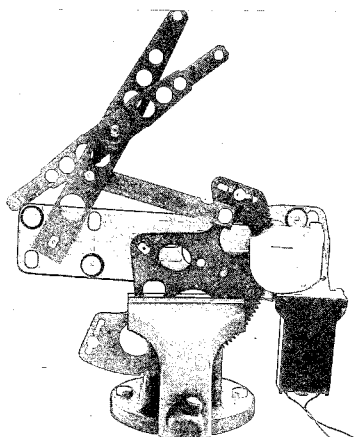

Fig. 8-25. Fixing window winder vise
10. Secure the window winder in a vise, Fig. 8-25, and remove the motor from the winder.